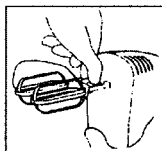

Figure 6
1. Pinch tabs located above grips on the Spatula and pull out to release Grips. (See Figure 6.)